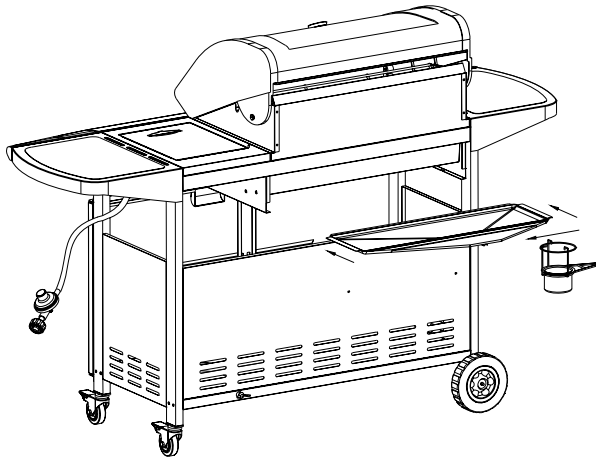

Figure 16
1.Insert grease tray assembly into opening on backside of grill. Make sure to slide tray onto tracks as illustrated. (Fig 16)